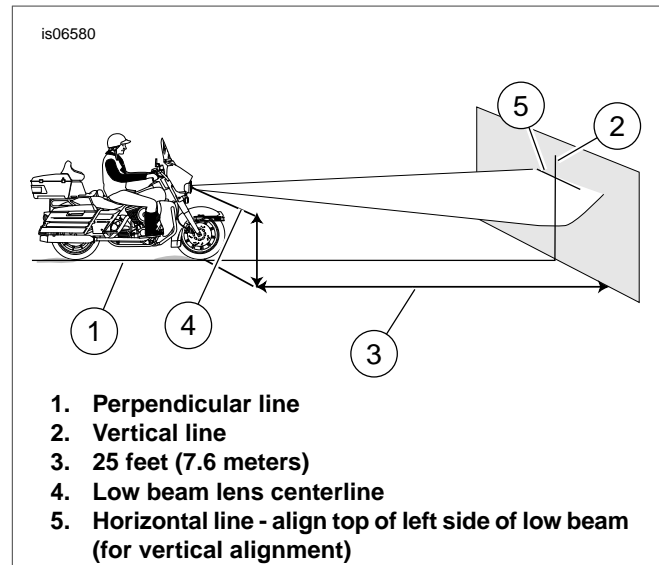

Figure 2. Checking Headlamp Alignment
3. See Figure 2. Position motorcycle so front axle is 25 ft (7.6 meters) (3) from wall.
4. See Figure 2. With vehicle laden and upright, point the front wheel straight forward at wall. Measure the distance from the floor to the center of the **low beam** lens (4). Record this measurement.